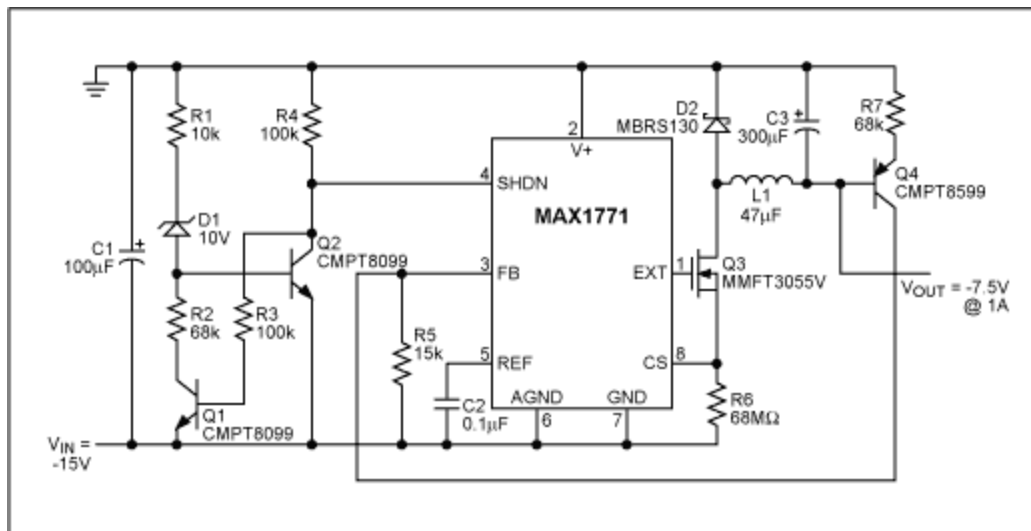

Figure 1. This negative step-down circuit regulates -15V down to -7.5V.
**Figure 1** shows a negative step-down switching regulator that delivers 1A at -7.5V from -15V, with efficiency better than 90%. The IC is a step-up switching controller referenced to the negative rail.